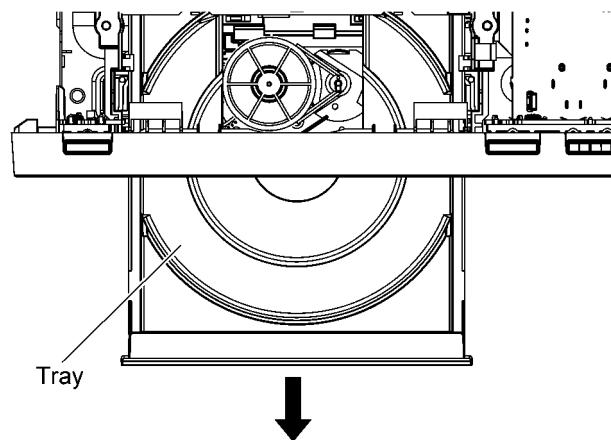

Figure 8-2
3. Gently pull out the tray. (Refer to Figure 8-2)